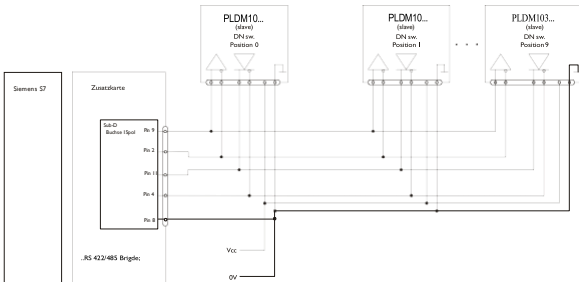

Fig. 2: RS-422 connection to S7 PLC
Fig. 2 shows the connection of multiple PLDM1010(H) or PLDM1030(H) devices to a Siemens S7 PLC.